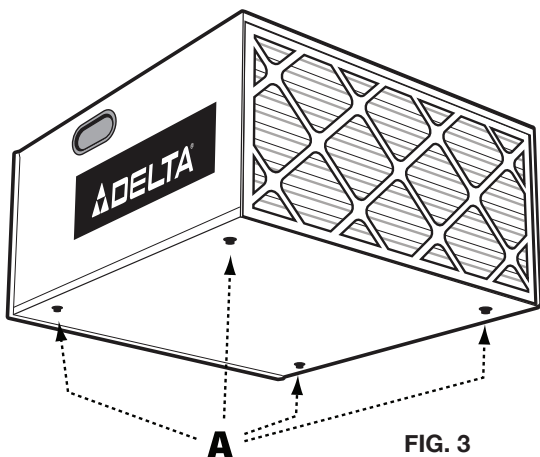

FIG. 3
Locate (4) self-adhesive rubber feet (A) Fig. 3 supplied with the unit. Carefully place the Air Cleaner on a firm supporting surface with access to the bottom of the cabinet. Apply a self-adhesive rubber foot (A) Fig. 3 to the bottom at each corner of the air cleaner cabinet. The rubber feet will help eliminate vibration and will prevent the possibility of the air cleaner “walking” across the floor or work surface.